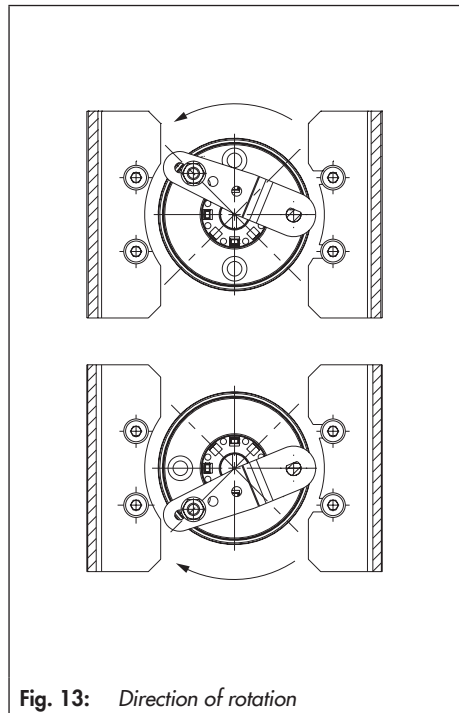
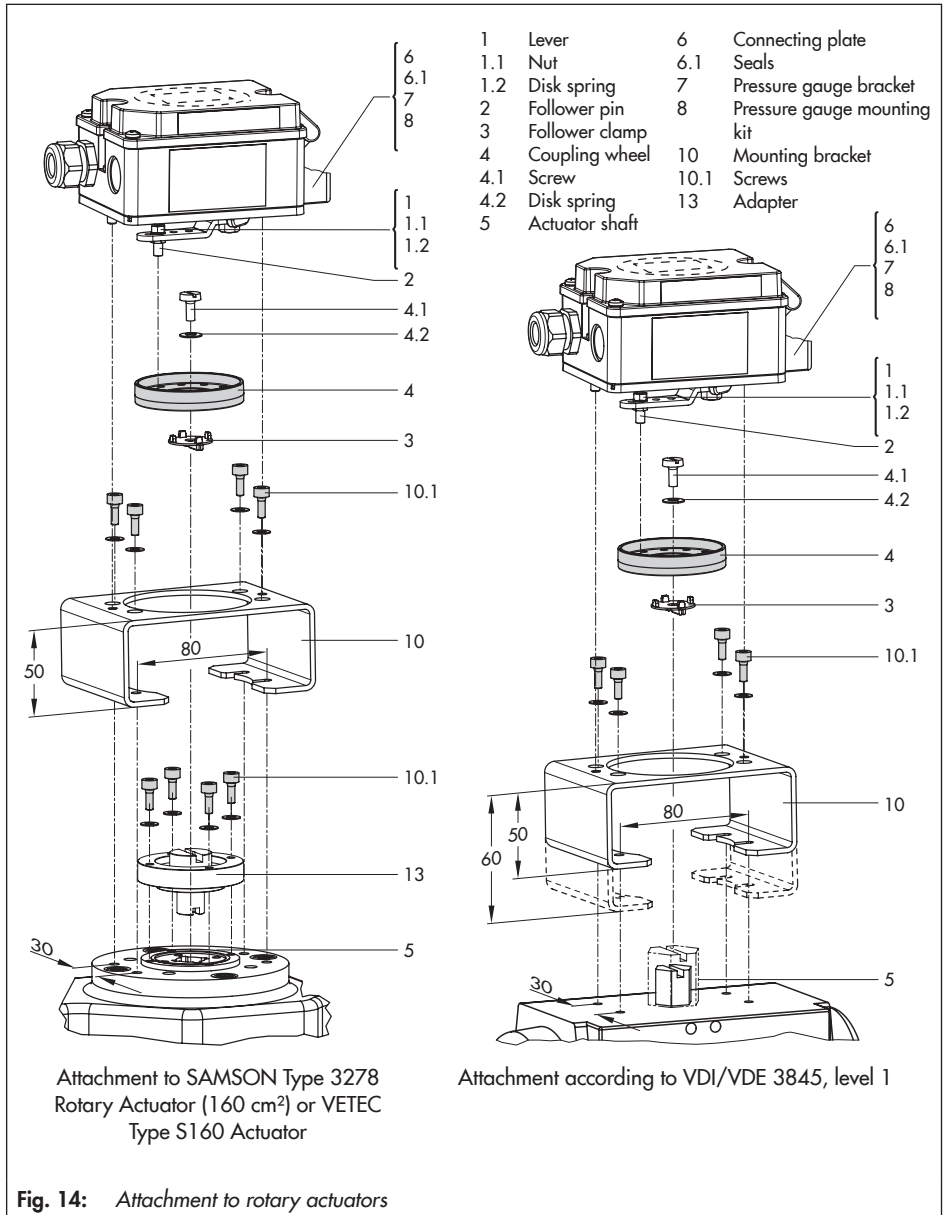

Fig. 13: Direction of rotation
Fig. 14: Attachment to rotary actuators
- ➔ Before attaching the positioner onto the SAMSON Type 3278 Rotary Actuator (160 cm²) or VETEC Type S160 Actuator, first mount the adapter (13) to the free end of the shaft end using four screws (10.2).
1. Place follower clamp (3) on the slotted actuator shaft or adapter (13).
2. Place coupling wheel (4) with flat side facing the actuator on the follower clamp (3). Align slot so that it matches the direction of rotation when the valve is in its closed position (see Fig. 13).
3. Fasten the coupling wheel (4) and follower clamp (3) tightly onto the actuator shaft using screw (4.1) and disk spring (4.2).
4. Mount connecting plate (6) or pressure gauge bracket (7) with pressure gauges (8) on the positioner. Make sure that the two seals are seated properly.
5. Fasten the mounting bracket (10) to the actuator using four screws (10.1).
6. Unscrew the standard follower pin (2) from the positioner's M lever (1). Use the metal follower pin (Ø 5 mm) included in the mounting kit and screw tight into the hole for pin position 90°.
7. Place positioner on the mounting bracket (10) and tighten. Taking the actuator's direction of rotation into account, adjust lever (1) so that it engages in the slot of the coupling wheel (4) with its follower pin (Fig. 14).
- ➔ The lever (1) must be parallel to the long side of the positioner when the actuator is at half its angle of rotation.
8. Stick the scale plate on the coupling wheel (4) so that the arrow tip indicates the closed position and it can be easily read when the valve is installed.